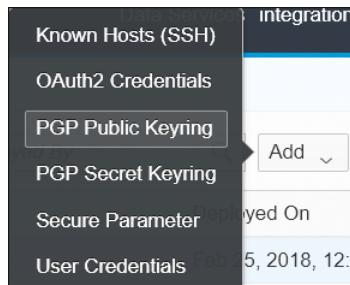

Figure 10.49 Adding a PGP Public Keyring Artifact
3. Choose **Add • PGP Public Keyring**, as shown in Figure 10.49.